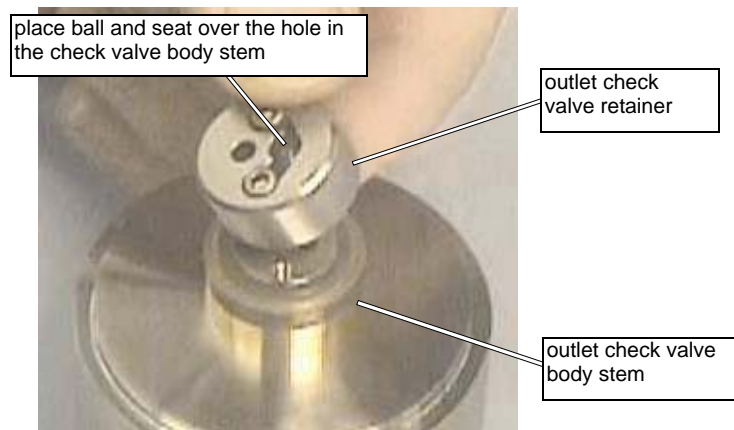

Figure 5-25: Placing the Outlet Check Valve Retainer on the Check Valve Body Stem
5. Place the assembled Outlet Check Valve Retainer on the outlet end of the Check Valve Body Stem with the Outlet Check Valve Seat up against the end of the stem (Figure 5-25).